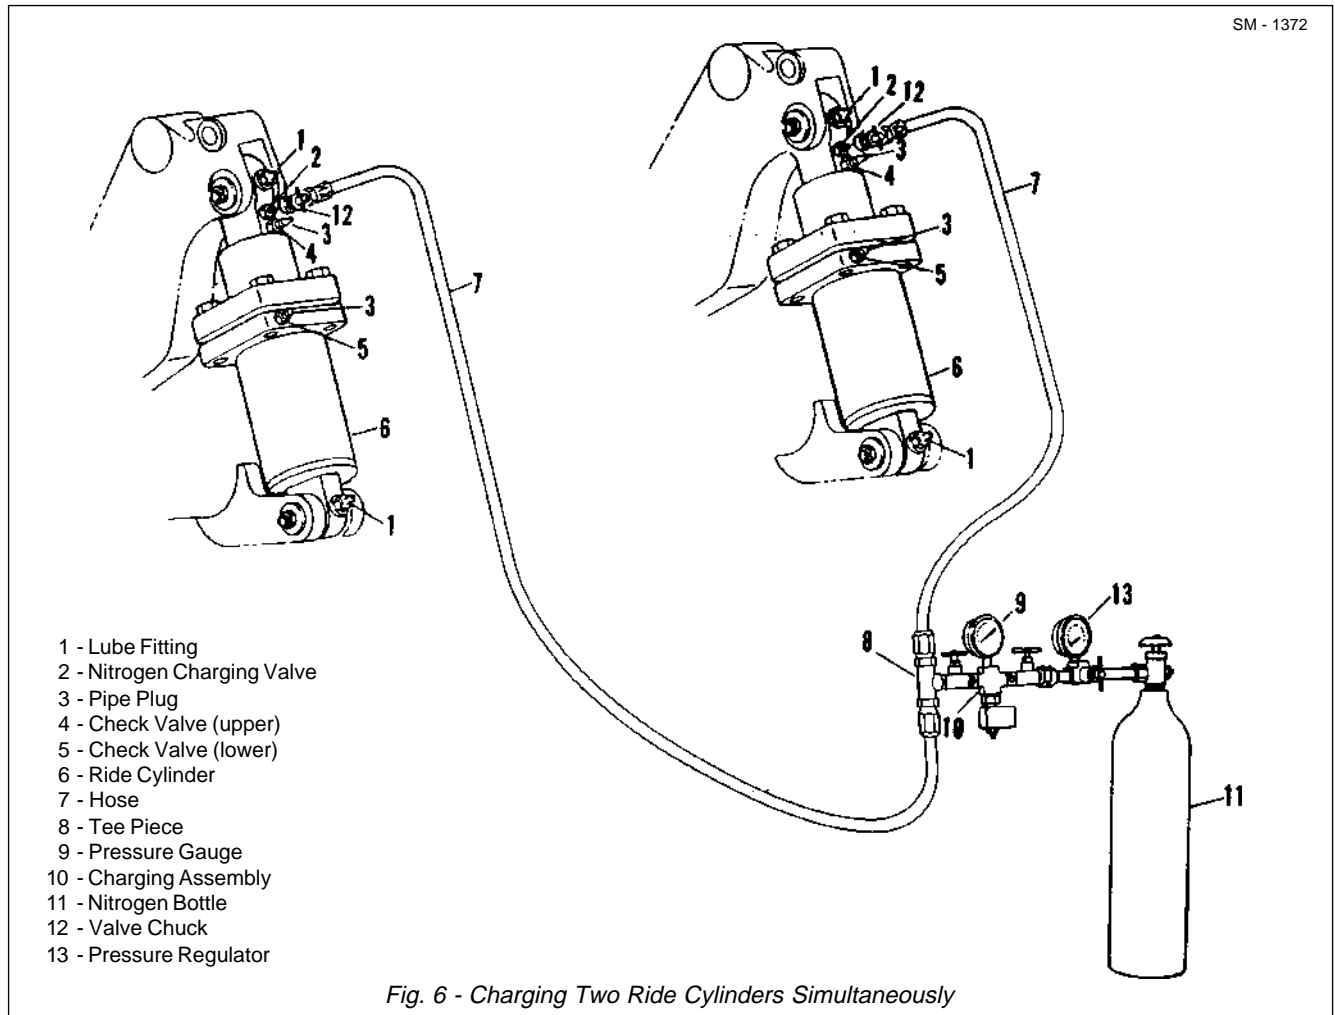

Fig. 6 - Charging Two Ride Cylinders Simultaneously
Numbers in parentheses refer to Fig. 6, unless otherwise specified.
**Note:** To ensure that both ride cylinders will be equally charged to the required height specifications and equal pressures, both cylinders should be charged simultaneously as shown in Fig. 6.